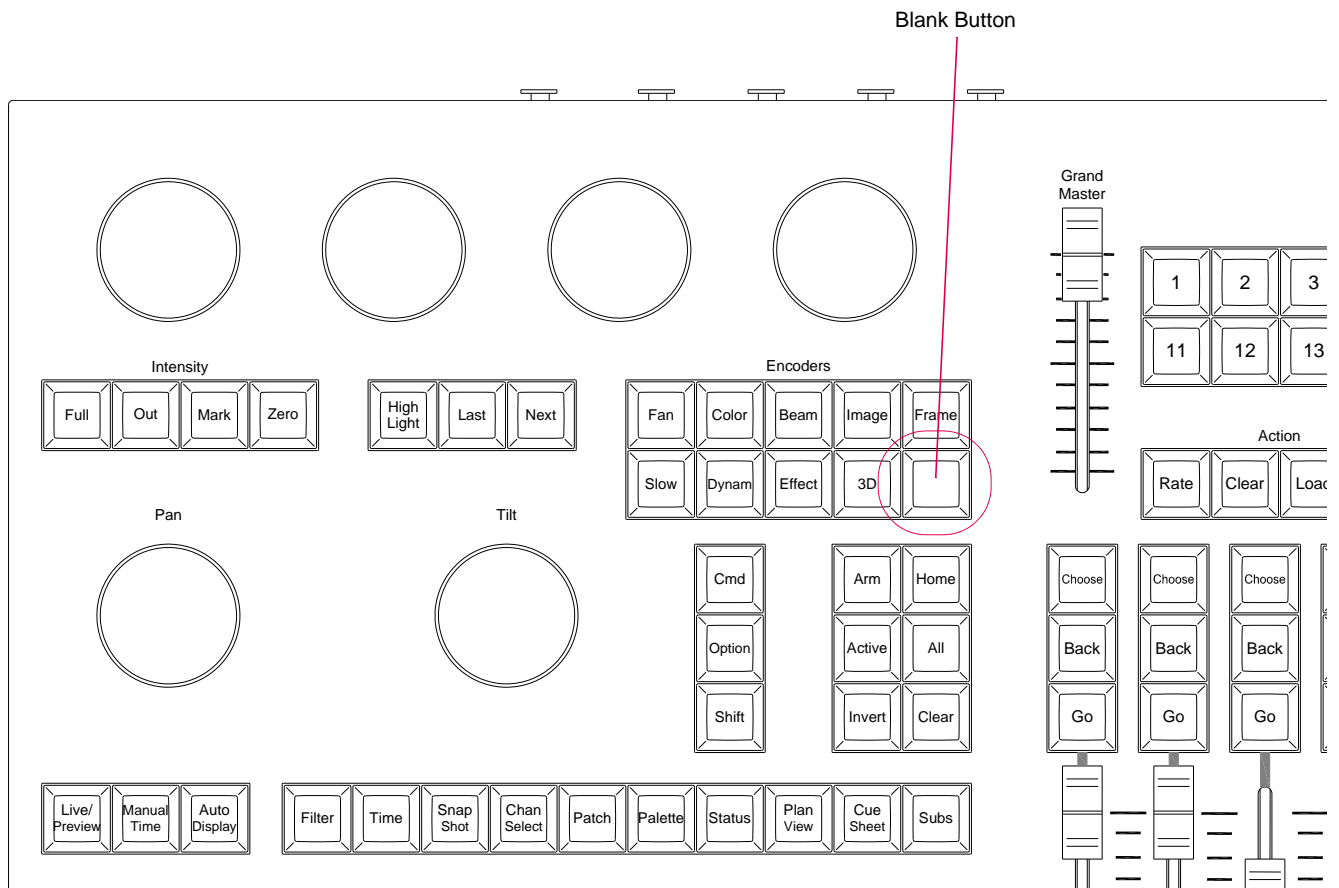

Figure 12: Front Panel Brightness Control
- Step 1. At Encoder area, press and hold blank button to activate dimming (Figure 12). Options are: